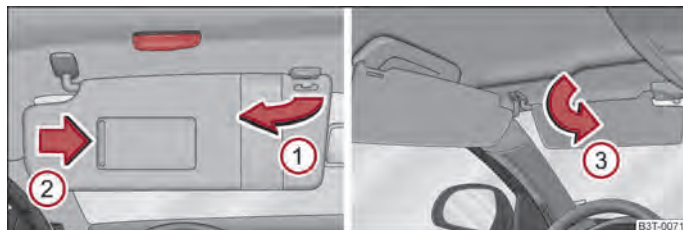

Fig. 48 Sun visor: Swivelling out - left/double sun visor: Swivelling back - right
You can pull the sun visor for the driver or front passenger out of the fixture and swivel it toward the door in the direction of the arrow ① → fig. 48.